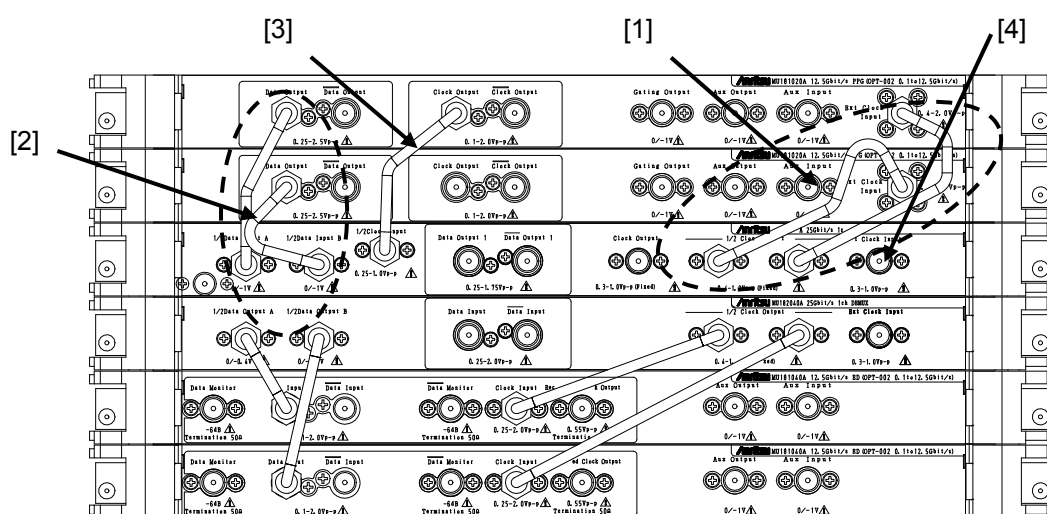
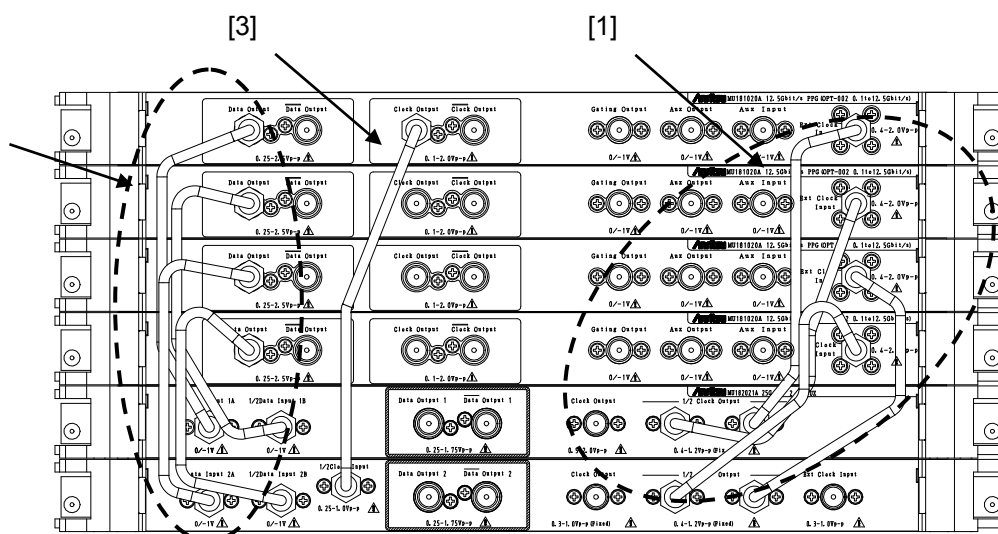

Fig. 3.2-1 Inter-module connection example for MU182020A
Fig. 3.2-2 Inter-module connection example for MU182021A
A connection example between the MU182020/21A and MU181020B 14 Gbit/s PPG (hereinafter, referred to as “MU181020B”) that are installed into a mainframe is shown below. Use the following procedure to connect these devices, and refer to Fig. 3.2-1 and Fig. 3.2-2.
3. Use coaxial cables to connect the Clock Output connectors of the MU181020B units with the 1/2 Clock Input connectors of this module. For the coaxial cables in Figure 3.2-1, the supplied accessory cables (J1427A or J1448A) are used.